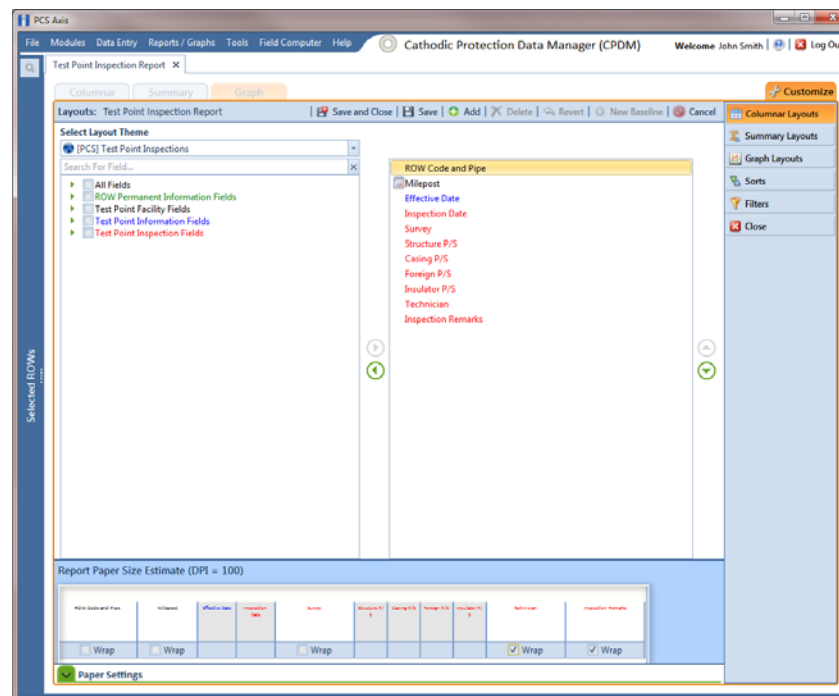

Figure 16-30. Layouts
- 3 Click the **Customize** tab  then the **Columnar Layouts** button  to open the *Layouts* page (Figure 16-30).